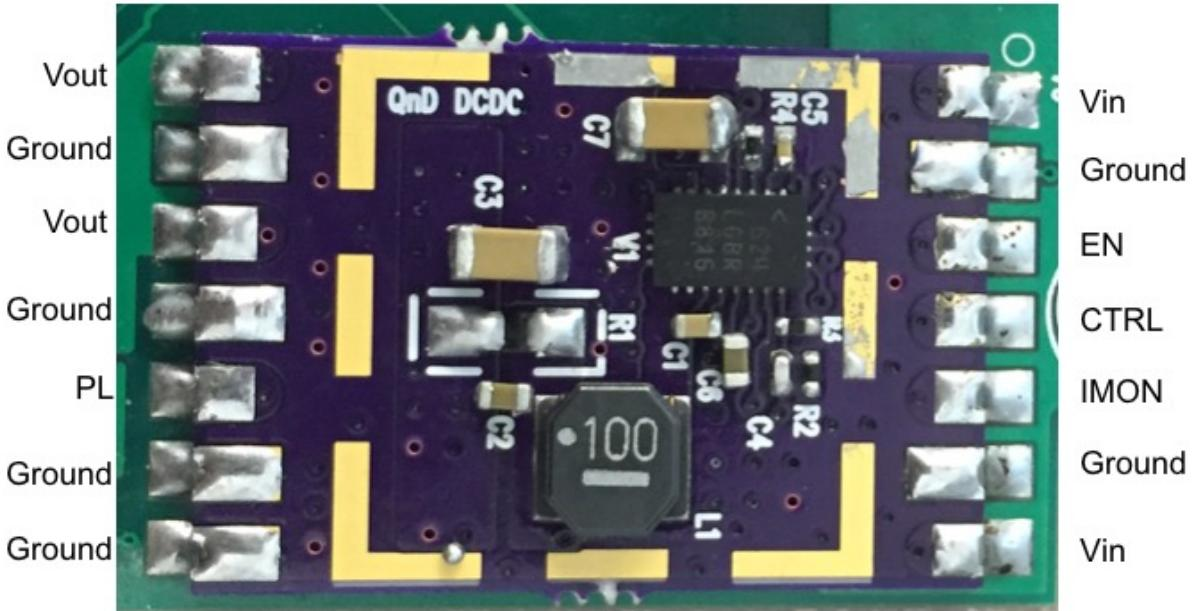

Figure 11: Photo of the DCDC converter with labeled inputs and outputs.
- Test the output of the 5V DCDC converter with a multimeter. It should register +5V. The output of the DCDC converter is labeled “Vout” in figure 11.